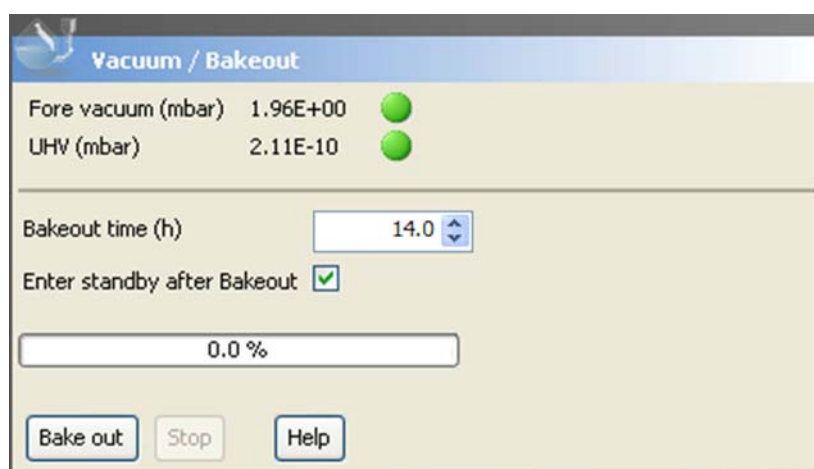

Figure 5-8. Vacuum / Bakeout window
3. Enter the desired baking duration (in hours) into the spin box. The range is 4 to 30 hours. See Figure 5-8.